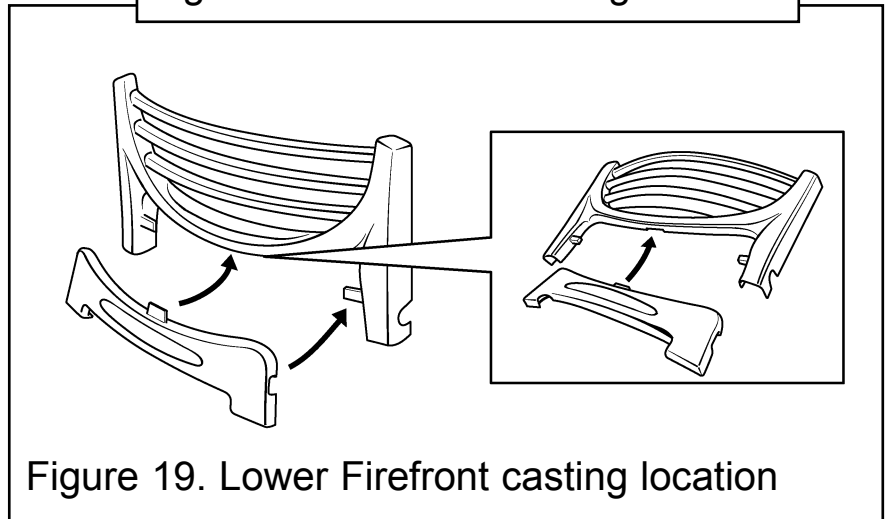

Figure 19. Lower Firefront casting location
2. Fit the lower firefront casting below the front casting locating it as shown in figure 19.